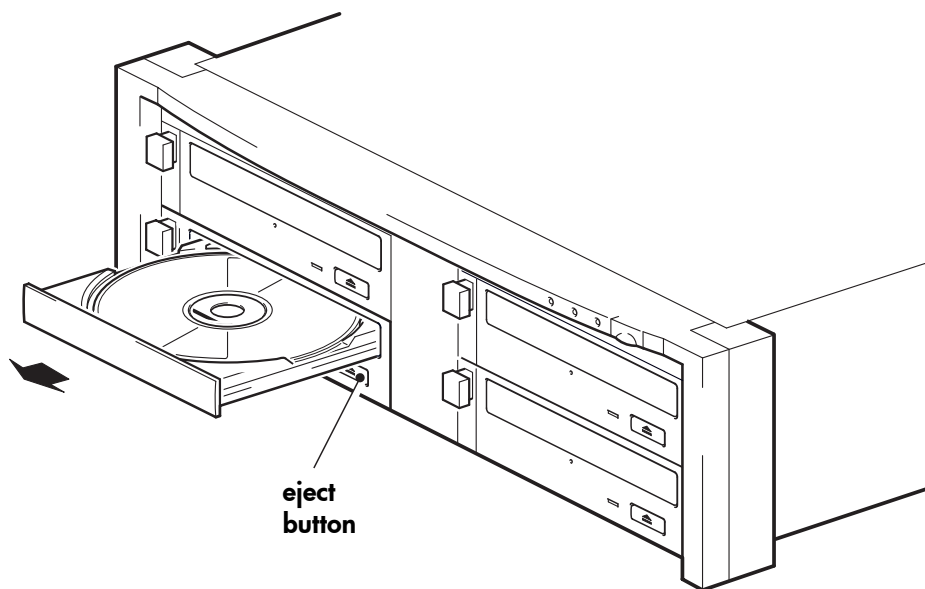

Figure 4b: unloading a disk
- 2 Press the eject button, as shown in figure 4b. The disk loading tray will slide out. (This may take a few seconds).